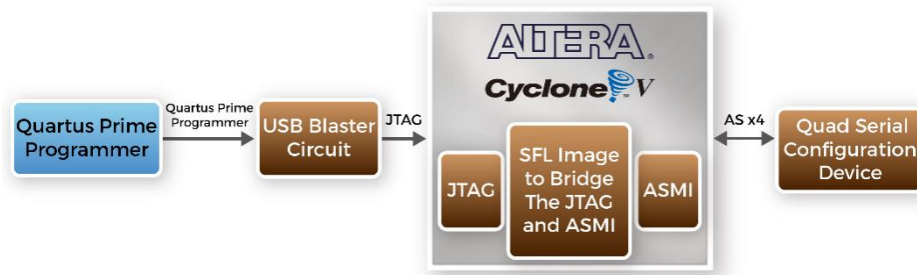

Figure 3-8 Programming a quad serial configuration device with SFL solution
- The FPGA-based SFL is a soft intellectual property (IP) core within the FPGA that bridges the JTAG and Flash interfaces. The SFL Megafunction is available in the Quartus Prime. **Figure 3-8** shows the programming method when adopting SFL solution.